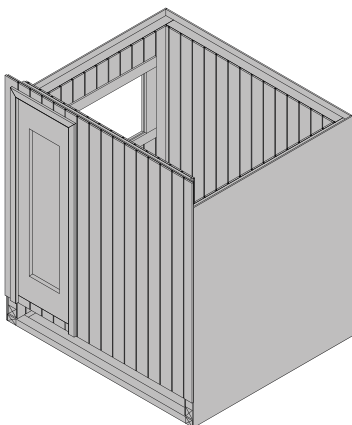

Figure 8.
- 13) Ensure the wall is set level (see figure 8).